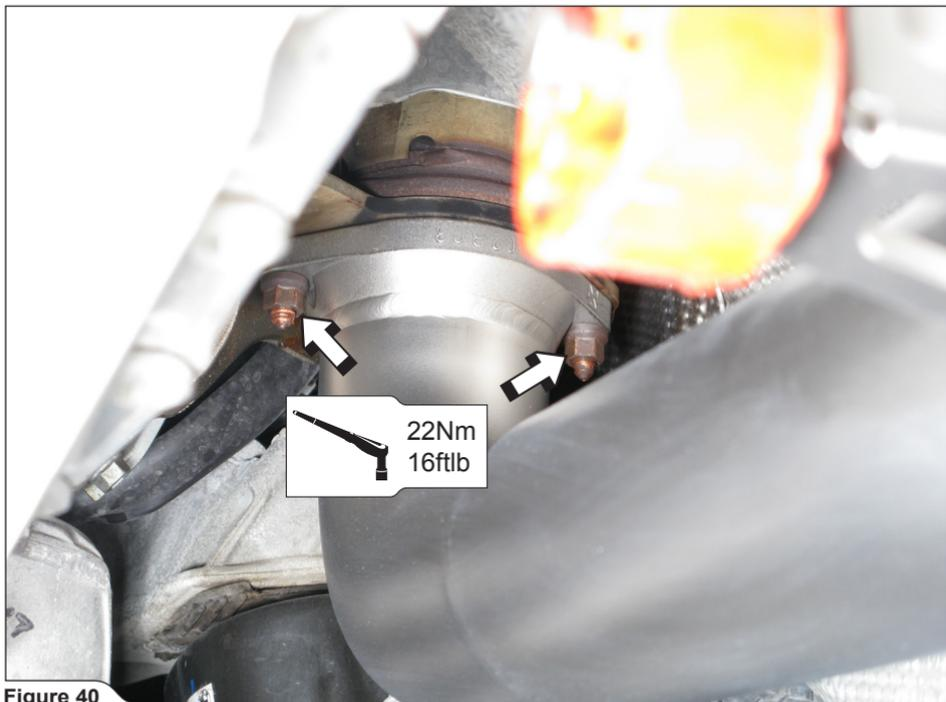

Figure 40
18. Tighten all flange nuts to the specified torque (**Figure 40**).